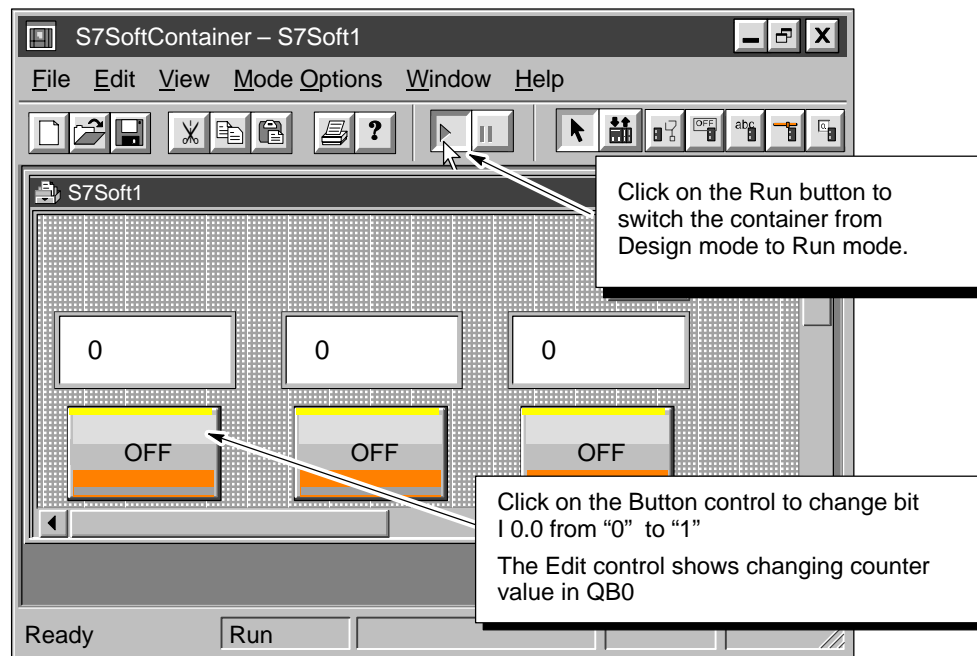

Figure 1-22 Placing the Container into Run Mode
1. Click on the “Run” icon (or select the **Mode ► Run** menu command) to switch the container from Design mode to Run mode. See Figure 1-22.